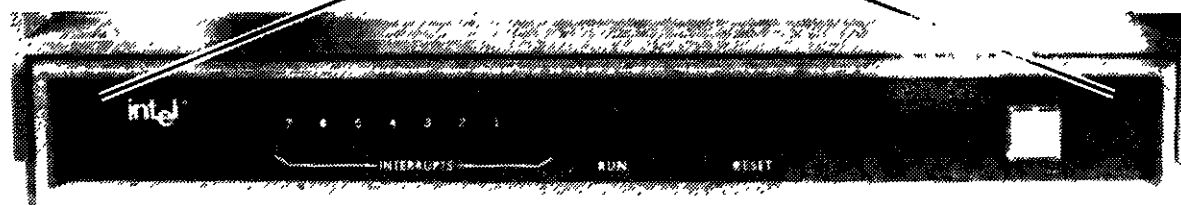
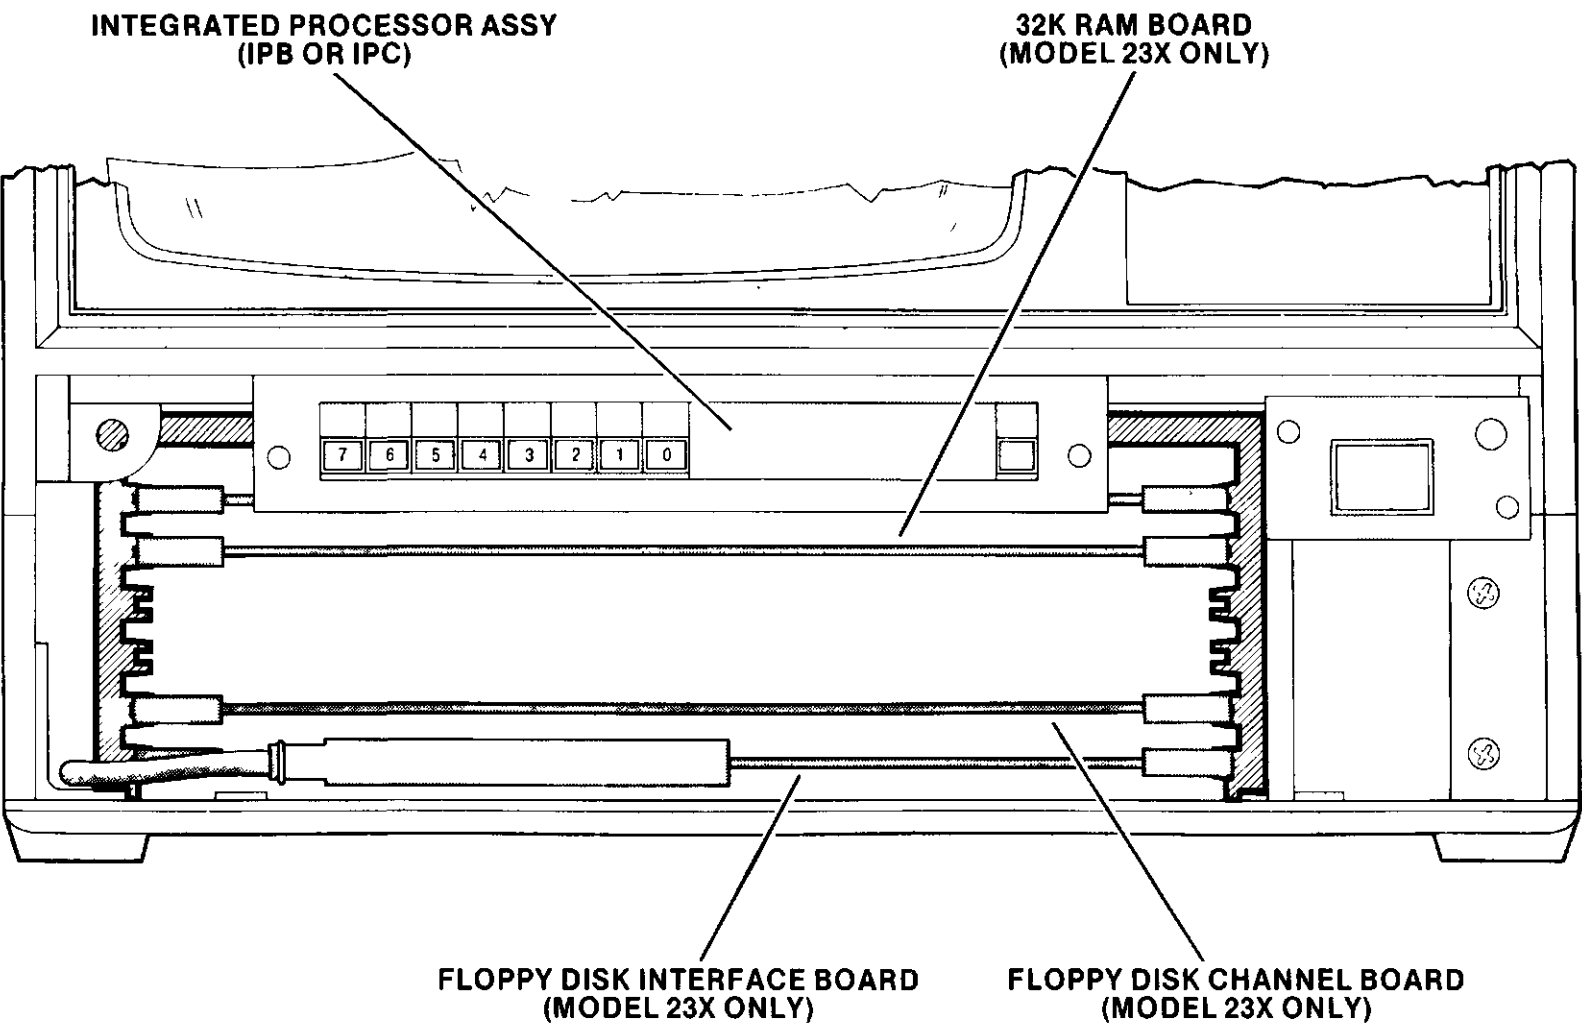
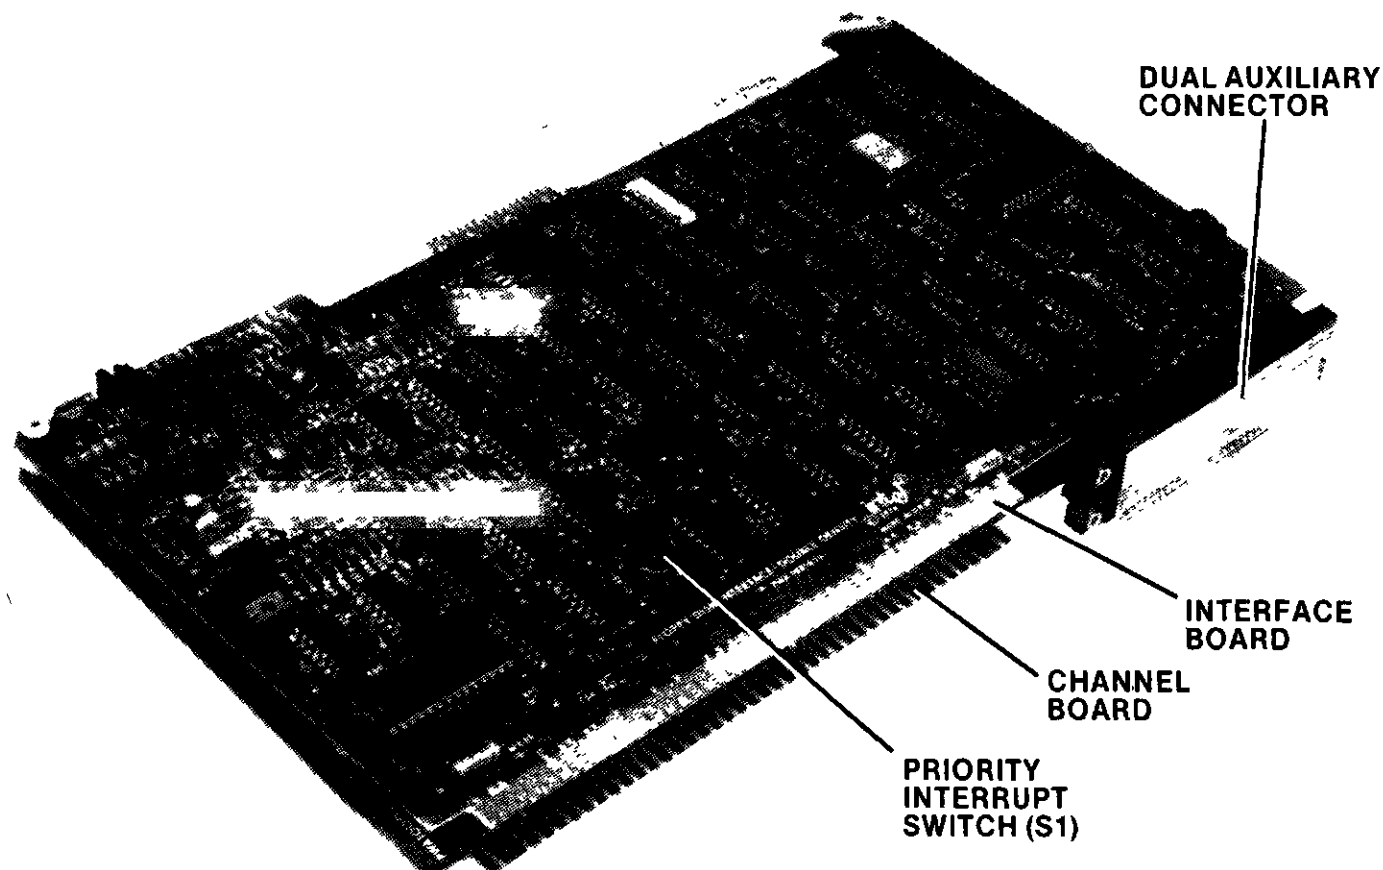

Figure 2-6. Model 22X/23X System Front Panel
Figure 2-7. Model 22X/23X System Cardcage
Figure 2-9. Dual Double Density Diskette Drive Controller
7. On front panel, rotate the two retaining screws counterclockwise and remove panel. (See figure 2-6.) Remove and discard foam packing material. Remove integrated processor assembly (IPB or IPC) mounted in top slot of cardcage by pulling outward on card extractors at each side of assembly. Refer to figures 2-7 and 2-8. Once IPB/IPC has been removed, press firmly inward on all integrated circuits mounted in sockets to ensure proper seating. Replace IPB/IPC in the top slot of cardcage; push firmly inward on card extractors to seat IPB/IPC fully into its backplane connector.
10. Examine the two printed circuit boards in the bottom two slots of cardcage. Remove large cable connector from interface board, and then remove *both* boards at once. A dual auxiliary connector is mounted on left rear, connecting both the interface board and channel board. (See figure 2-9.) Remove this connector.
Figure 2-9 shows the dual auxiliary connector installed such that the interface board will be mounted above the channel board when installed in the cardcage. As shown in figure 2-7, the positions of these boards can be reversed without affecting their operation.